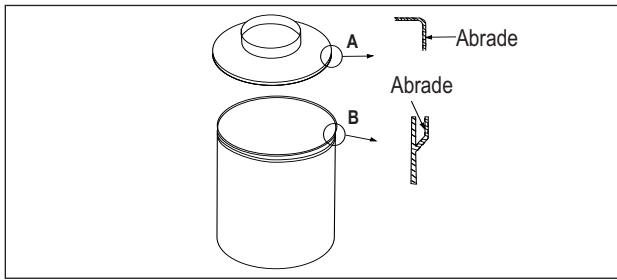

FIGURE 16-5
16.2.5.3. When using the watertight containment sump, abrade the entire circumference of the outside edge of the containment sump top. (See FIGURE 16-5, A.)
16.2.5.4. When using the watertight containment sump, abrade the entire circumference of the inside surface of the channel at the top of the containment sump body. The containment sump top sets into this channel. (See FIGURE 16-5, B.)